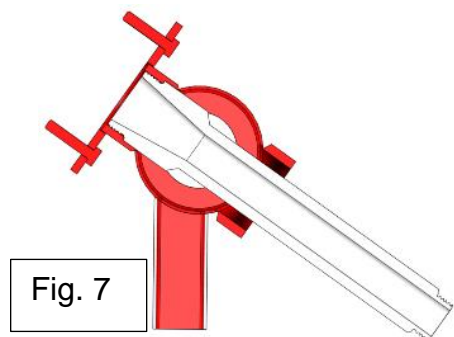

Fig. 7
4. Turn the power switch to the on position. For solid state digital models (D) and computer models (C) models, the temperature will automatically set for 195-200°F. The water will not achieve an active boil.
6. Unthread the Boil Out By-Pass™ drain plug and thread in the Boil Out By-Pass™ extension tube as shown in in Fig. 6. The larger thread end screws into the back of the drain manifold as shown in the cutaway side view in Fig. 7.